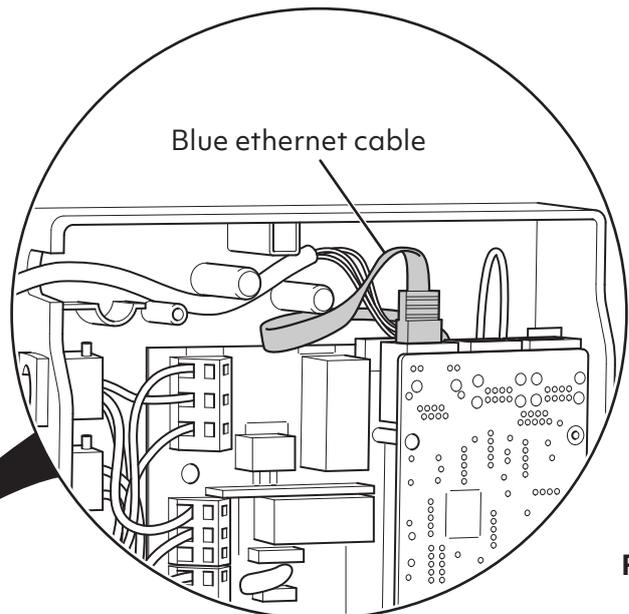

Fig. 20
1. Unscrew and remove the cylinder controller's cover and then disconnect the blue ethernet cable (Fig. 20).